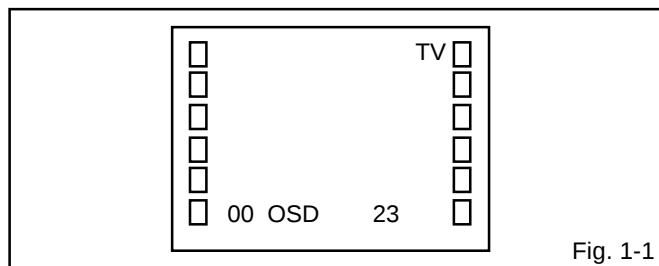

Fig. 1-1
Press the VOL. DOWN button on the set and the Channel button **(9)** on the remote control for more than 1 second to appear the adjustment mode on the screen as shown in **Fig. 1-1**.
3. Activate the adjustment mode display of **Fig. 1-1** and press the channel button **(01)** on the remote control to select "CUT OFF".
4. Activate the adjustment mode display of **Fig. 1-1** and press the channel button **(10)** on the remote control to select "R. BIAS".
3. Activate the adjustment mode display of **Fig. 1-1** and press the channel button **(05)** on the remote control to select "H. PHAS".
3. Activate the adjustment mode display of **Fig. 1-1** and press the channel button **(07)** on the remote control to select "V. SFT".
3. Activate the adjustment mode display of **Fig. 1-1** and press the channel button **(06)** on the remote control to select "V. SIZE".